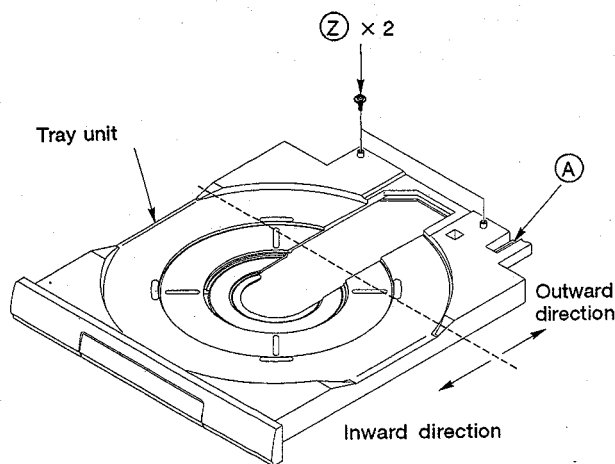
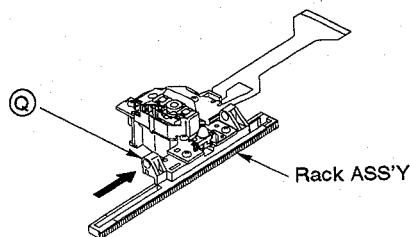

Fig. 1-1
Fig. 1-3
2. Remove the two fixing screws (Z) (Fig. 1-1).
4. Pull out the tray unit while pressing the hook (A) (Fig. 1-1), located on the rear right side of the tray unit, to the left.
2. Make sure that the position of the lens in the pickup assembly is such that the lens stops outside the position indicated by the dotted line in Fig. 1-1. When the lens stops inside the dotted line, slowly press the (Q) portion of the rack assembly (Fig. 1-3) to move the lens in the pickup assembly until the lens is outside the position indicated by the dotted line in Fig. 1-1.
3. Slowly press the ③ portion of the rack assembly (Fig. 1-3) to move the lens in the pickup assembly until the lens is outside the position indicated by the dotted line in Fig. 1-1.